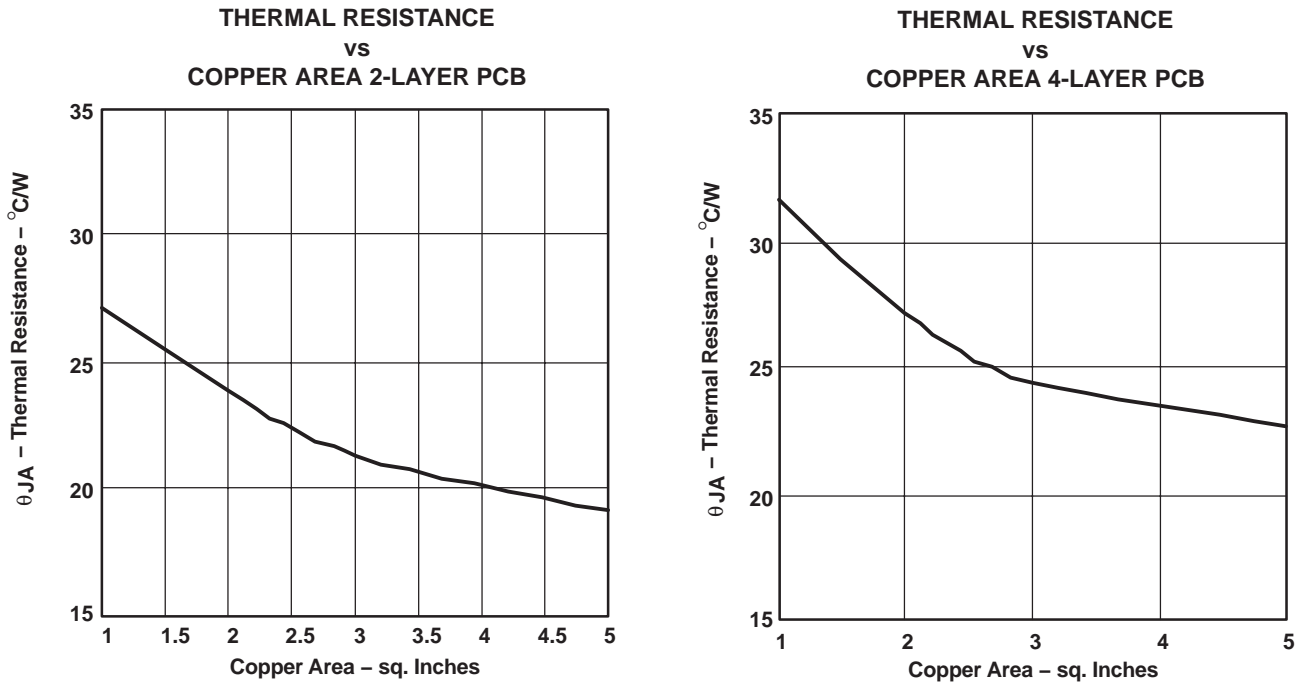
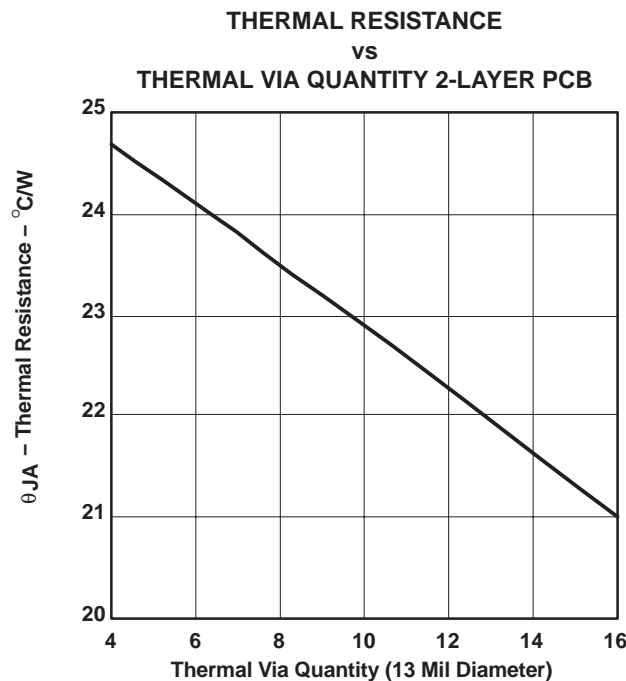

Figure 47. Thermal Resistance
Figure 48. Thermal Resistance
$$\Theta_{JA} = 19^\circ\text{C/W} \quad (2\text{-Layer PCB, 5 sq. in. copper, see Figure 47)} \quad (8)$$
Figure 47 and Figure 48 show the results of several thermal experiments conducted with the TPA3004D2. Both figures show that the best thermal performance can be achieved with more copper area for heat dissipation and an adequate number of thermal vias.
Figure 47 shows two curves for a 2-layer and 4-layer PCB. The 2-layer PCB layout was tightly controlled with a fixed amount of 2 oz. copper on the bottom layer of the PCB. The amount of copper is shown on the x-axis. Nine thermal vias of 13 mil (0.33 mm) diameter were drilled under the PowerPad and connected to the bottom layer. The top layer only consisted of traces for signal routing.
Figure 48 shows the effect of the number of thermal vias drilled under the PowerPad on the thermal performance of the PCB. The experiment was conducted with a 2-layer PCB and 3 square inches of copper on the bottom layer. For the best thermal performance, at least 16 vias in a 4x4 pattern should be used under the PowerPAD. Refer to the TPA3004D2 EVM User's Manual, SLOU115, for an example layout with a 4x4 via pattern. PCB gerber files are available at request.